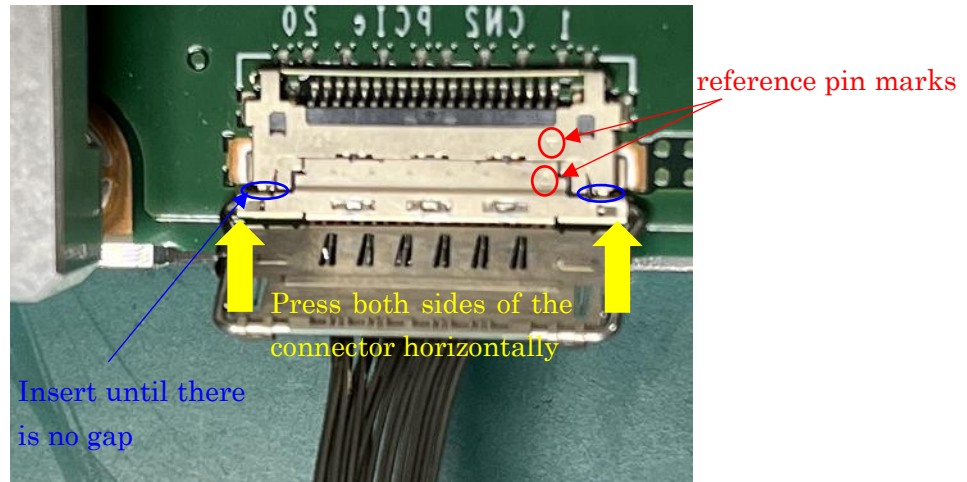

Figure 4-7 Data interface cable connector connection
- ② As shown in Figure 4-7, align the reference pin marks of the receptacle connector with the reference pin marks of the plug connector, and then insert the plug connector into the receptacle connector. When inserting the connector, press both ends of the connector horizontally and make sure there is no gap between the plug connector and receptacle connector.